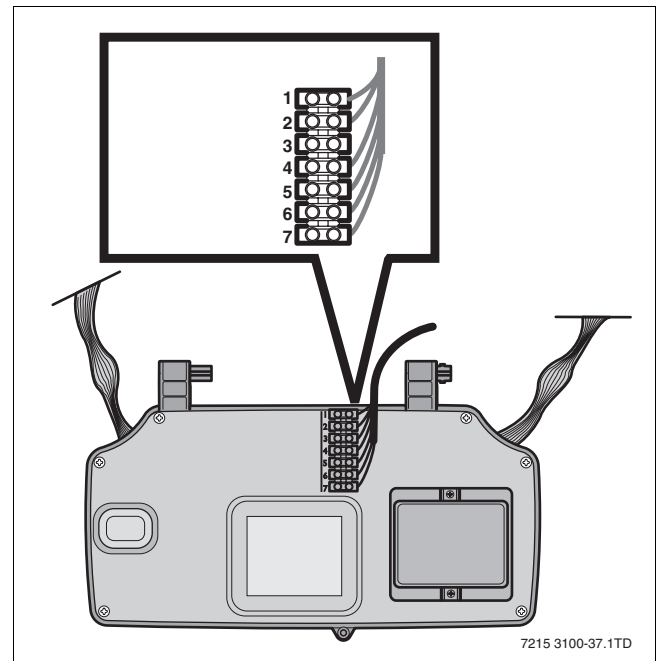

Fig. 37 Room thermostat connection on DBA
- Connect the two wires of cable from the ModuLink receiver to terminal 1 and 2 of the connection block on the back of the DBA (→ fig. 37). The wires are not polarity sensitive.
- Connect the wire to terminal 1 and 2 of the connection block, marked Room Thermostat (→ fig. 37).